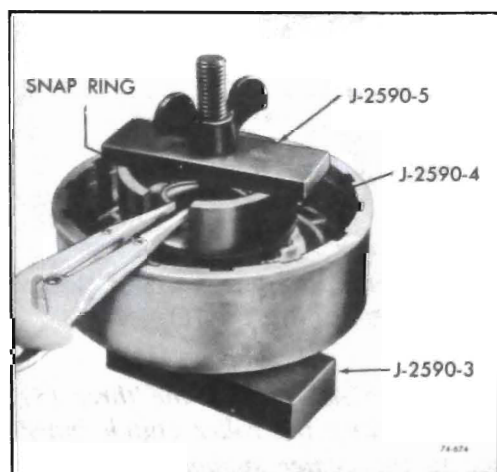

Figure 76-688
7. Using Tool J-2590, install snap ring. See Figure 76-688.
8. Lubricate with transmission fluid and install five (5) composition, four (4) flat steel, and one (1) waved steel